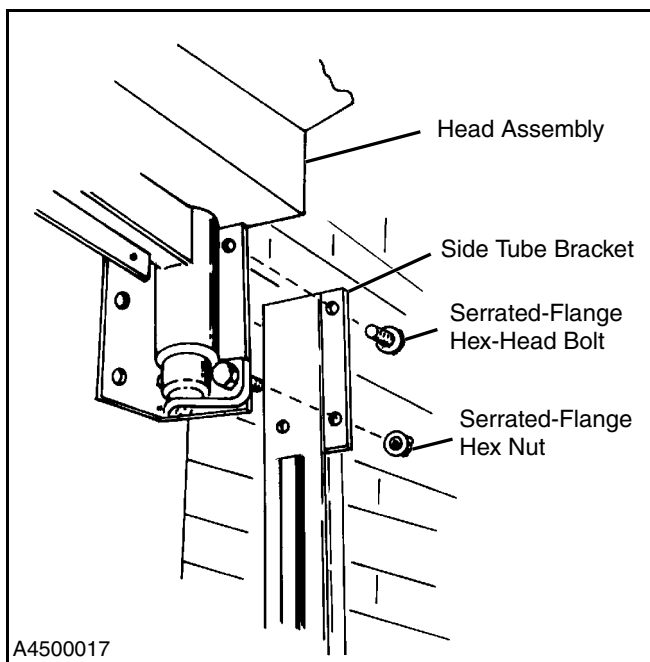

Figure 14
5. Slide the lower bolts on the sides of the head assembly into the holes in the side tube brackets and fasten the head assembly to the side tubes with 1/2-13 serrated-flange hex nuts. Install 1/2-13 x 3/4-inch serrated-flange hex bolts into the upper mounting holes and tighten. (See Figure 14.)